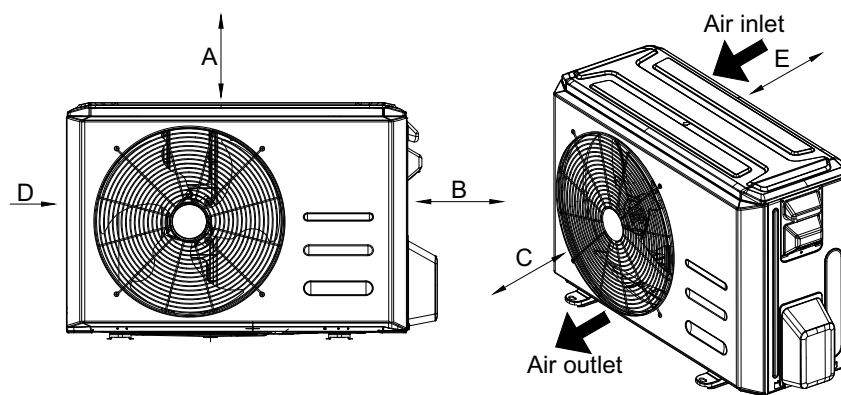

Fig. 6 — Outdoor Unit Clearances
- A location which provides appropriate clearances (see Fig. 6).
- Allow sufficient space for airflow and service of the unit. See Fig. 6 — on page 12 for the required minimum distances between the unit or walls.